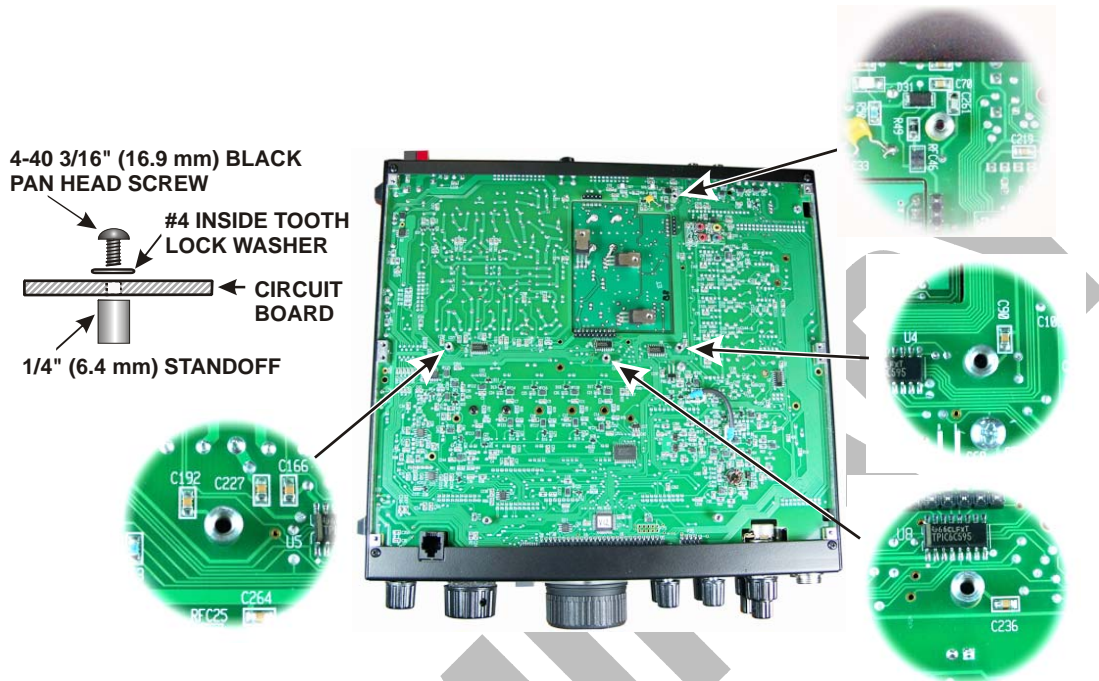

Figure 55. Installing Standoffs on RF Board.
- Install four 1/4" (6.4 mm) standoffs on the bottom of the RF board as shown in Figure 55. Be sure you mount the standoffs on the bottom of the board as shown.